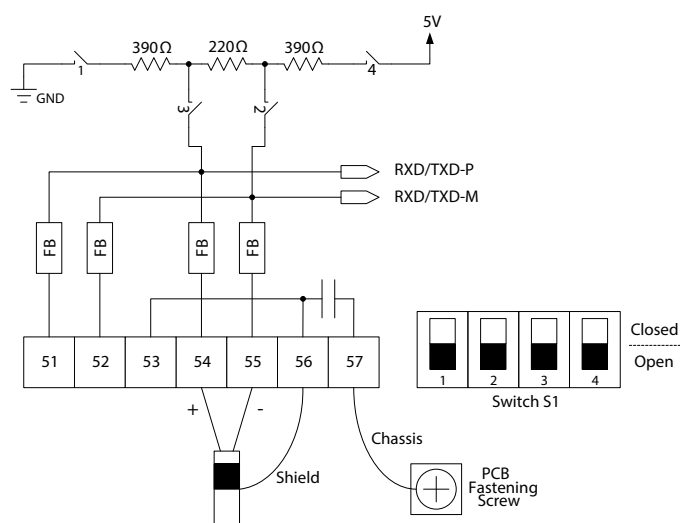

Figure 4: Signal wiring diagram
5. Use the following information to make appropriate wiring of signals to the 7-pin customer connector. See "Figure 4: Signal wiring diagram" on page 5.